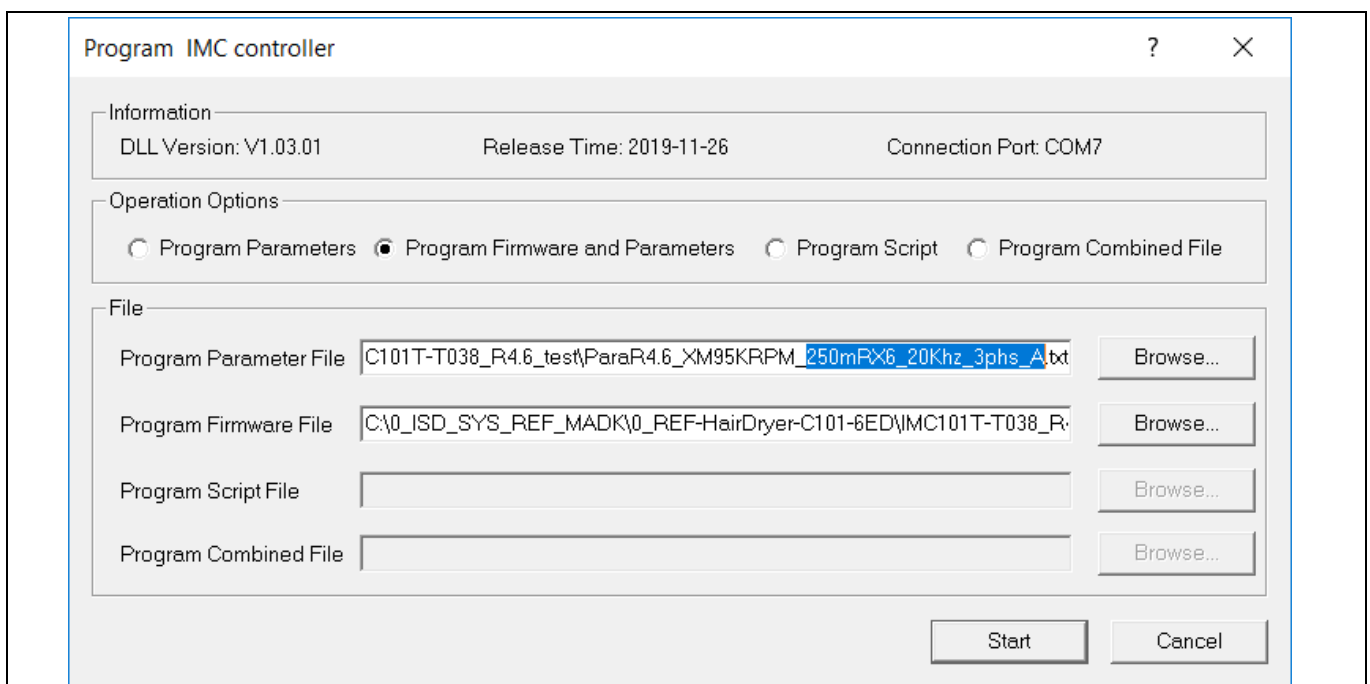

Figure 8 MCEDesigner Program message
9. *In case of blank IC: Use the following steps to program the firmware and the parameters file into the internal Flash memory of iMOTION™ Control IC: Click on system page, click “Tools” > “Programmer” and select “Program Firmware and Parameters,” shown as Figure 8 below. The encrypted firmware is available in “IMC101T MCE Software Package,” regarding the parameters file, browse and select the .txt file in step 3.*